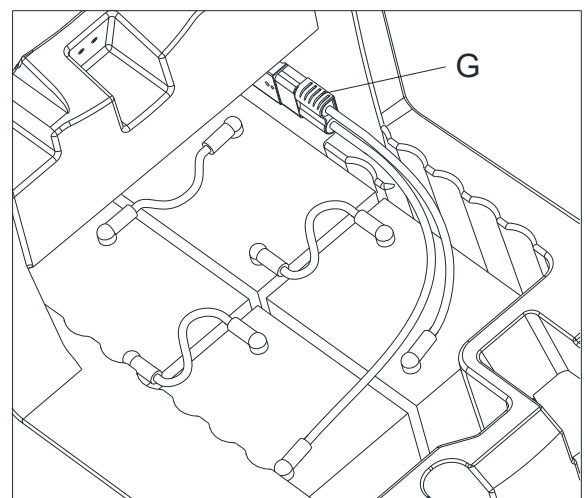

Figure 17
2. Disconnect the battery connector (G, Figure17).